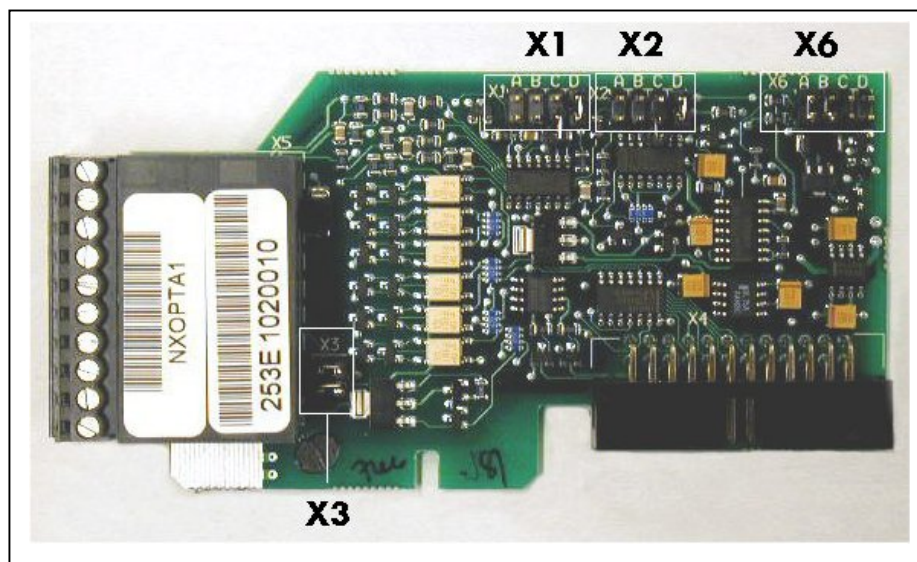

Figure 6-20. Jumper blocks on OPT-A1
The control unit of the inverter consists of the control board and option boards (see Figure 6-13 and Figure 6-20) connected to the five slot connectors (A to E) on the control board. The control board is connected to the power unit through a D connector (1).